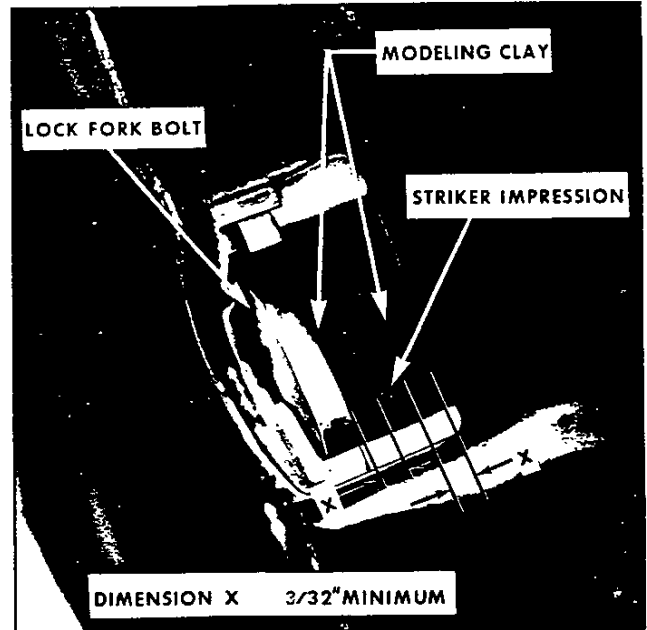

Fig. 20-Checking Adjustment of Striker
#### Door Lock Striker (Fig. 20)
- d. Measure striker impression as follows: Striker head should be centered fore and aft as shown; however, some tolerances are allowed. In this alignment, it is important that minimum dimensions as outlined in Figure 20 be strictly maintained. The following spacers are available as service parts and can be used